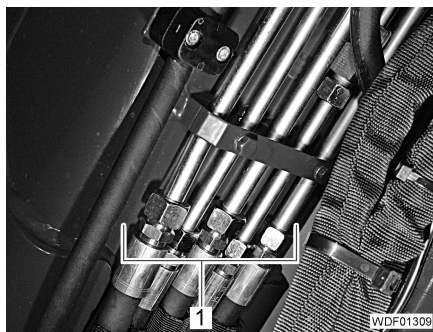

Fig. 378 Underside of telescopic arm
- Unscrew and close off the 5 hydraulic lines (Fig. 378,1).